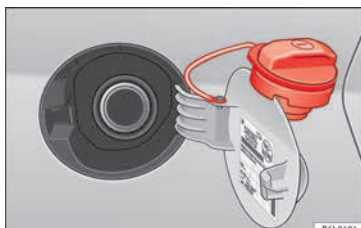

Fig. 51 Fuel tank flap with tank cap attached.
- Rest it on the upper part of the fuel tank flap » **Fig. 51**.